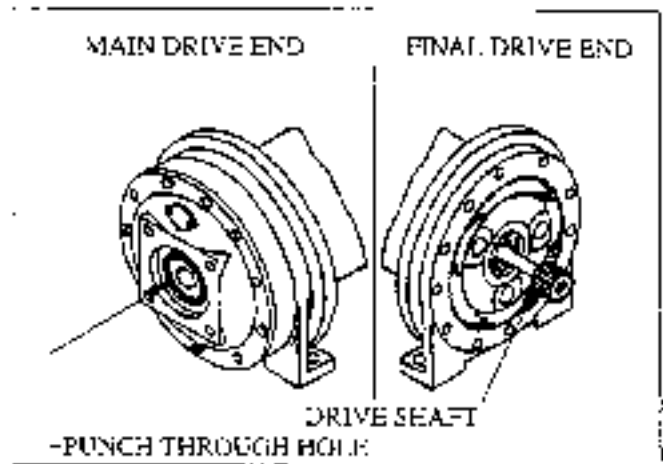

Figure 16
- (15) With a punch and hammer, tap the shaft out from the main drive end. See Figure 16.